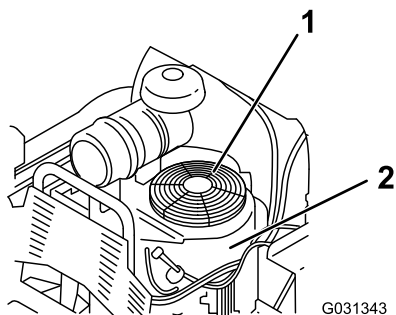

Figure 67
3. Remove the air-intake screen and fan housing (Figure 67).
5. Install the air-intake screen and fan housing (Figure 67).